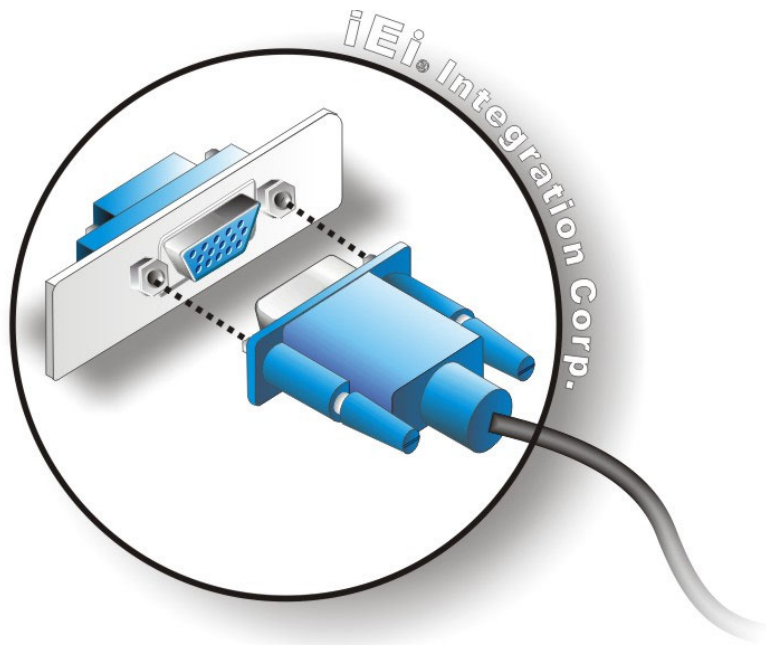

Figure 3-45: VGA Connector
- Step 3:** **Insert the VGA connector.** Once the connectors are properly aligned, insert the male connector from the VGA screen into the female connector on the PPC-FxxA-H81. See **Figure 3-45**.